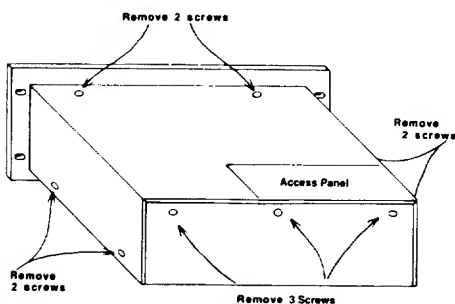

Figure 1. Top-Cover Removal
2. Remove and save the nine screws that secure the mixer/power amplifier's top cover. There are two screws near the bottom of each side, two screws on top near the rear edge of the front panel, and three screws at the top edge of the rear panel. Refer to Figure 1 for details.
1. Remove and save the two screws that secure the access panel to the top cover. Refer to figure 1 for details.